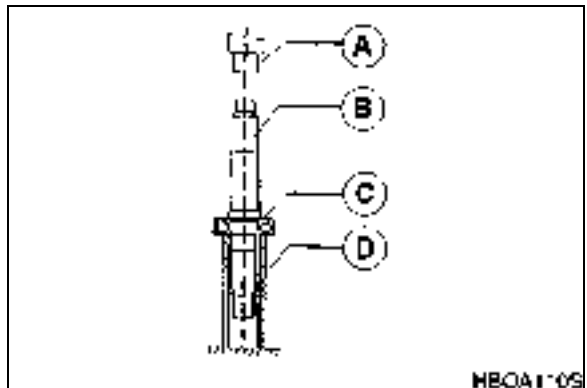

Figure 89
- 18. Heat bearing (B, Figure 89) (149) and press shaft (B) (102) into bearing.